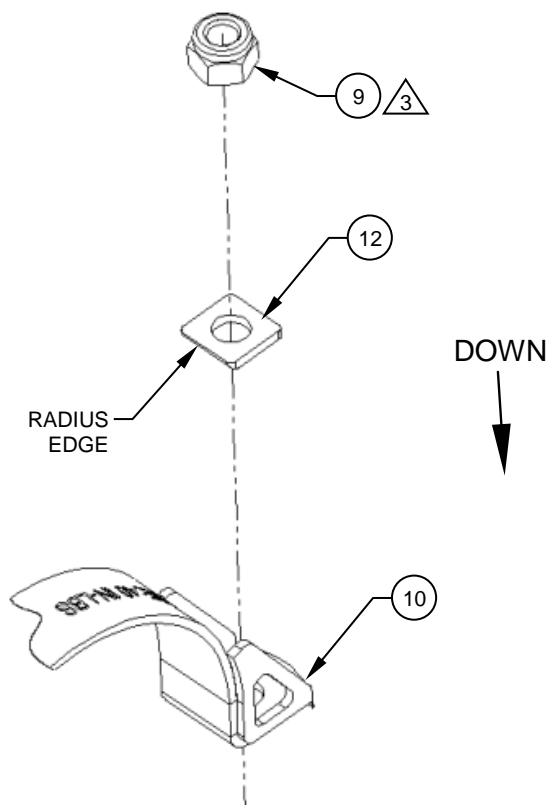

Figure 5
5. Install the supplied Radius Washer (Item 12) and Nut (Item 9) on each bolt. Reference Figure 5. Ensure the radius edge on the Washer (Item 12) is oriented down and towards the skid tube. Reference Figure 5. A thin-wall socket may be required to adequately fasten the Nut (Item 9).